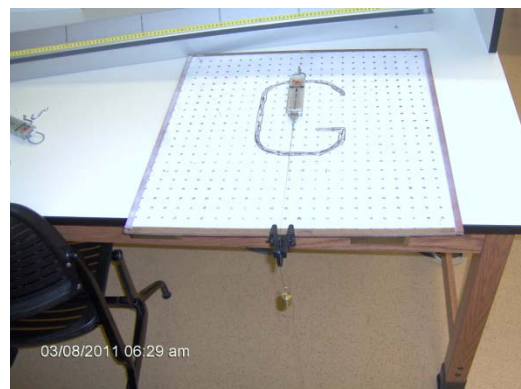

Figure 2
3. Clamp the pulley to the end of the pegboard. Attach a pegboard hook and spring gauge on the pegboard and using string tied to the spring gauge, hang a 200 gram mass to the other end of the string such that the string is over the pulley and the mass hangs off the table. See Figure 2. This is to test the accuracy of the gauge. If the gauge does not read 200 grams, then adjust the faceplate of the gauge. Also ensure that the gauge reads zero with no weight hanging on it after the adjustment. Do this for all three spring gauges. If a spring gauge cannot be adjusted to read 200 grams with a 200 gram mass hanging on it and read zero with no mass on it, let your TA know so he can find a replacement.